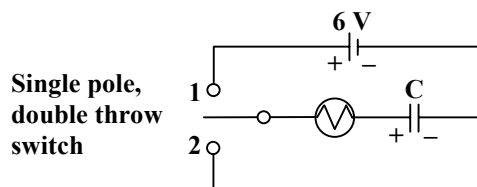

Figure 2-1: Circuit to examine the charging and discharging of a capacitor through a light bulb.
1. Set up the circuit shown in Figure 2-1 using the $23,000\ \mu\text{F}$ capacitor. Be sure that the positive and negative terminals of the capacitor are connected correctly (because of the dielectric, electrolytic capacitors have a definite polarity).